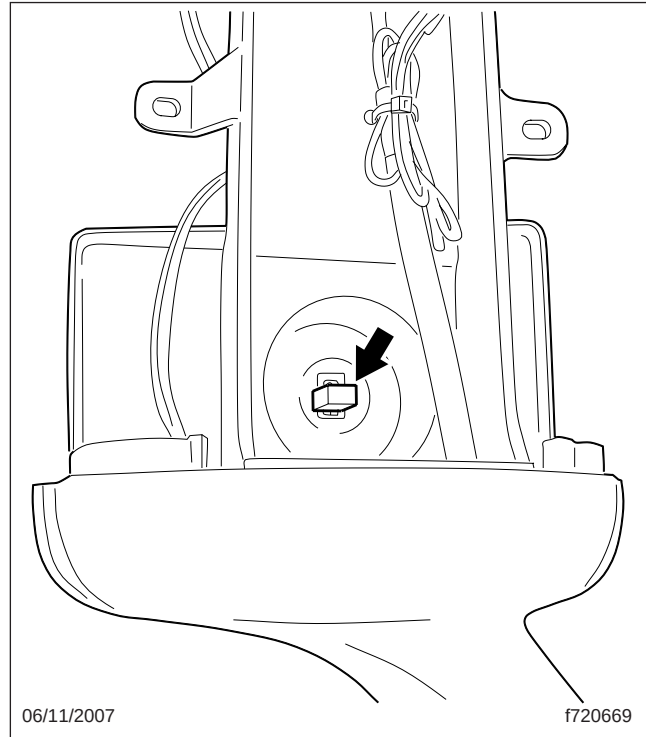

Fig. 3, Convex Mirror Plate Locking Tab
4. Using a pair of pliers, release the convex glass carrier by pulling and rotating (90 degrees) the white locking tab on the back of the convex mirror; see **Fig. 3**. Note that the middle sphere, located between the glass carrier and the mirror arm, may come loose.
3. Push the convex glass carrier in place, passing the locking tab through the rectangular hole in the mirror arm. Using a pair of pliers, pull and rotate the locking tab 90 degrees to lock the glass carrier in place. See Fig. 3.